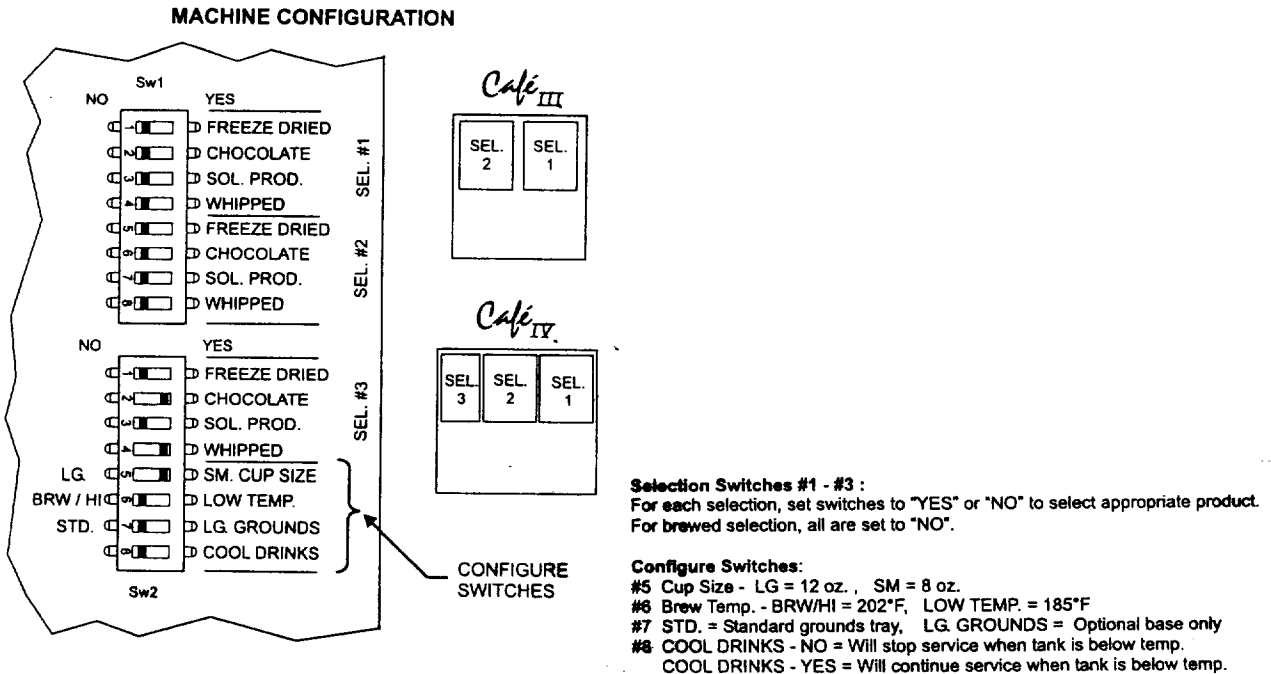

Figure 1
5. Open door of unit. Set dip switches for appropriate machine configuration. Selections run right to left inside machine for 1, 2, & 3 (4). Refer to figure 1.
There are two sets of DIP switches (SW1 and SW2) on the service display board (mounted on the back side of the door) (Figure 1). *Please note that the switch settings shown are not necessarily correct for your particular machine.*